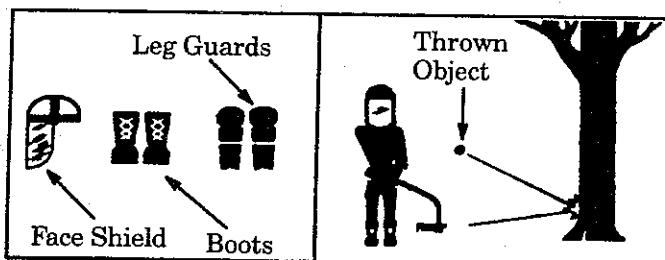

Figure 12
2. Use the 8 o'clock to 10 o'clock position for cutting. Figure 12.